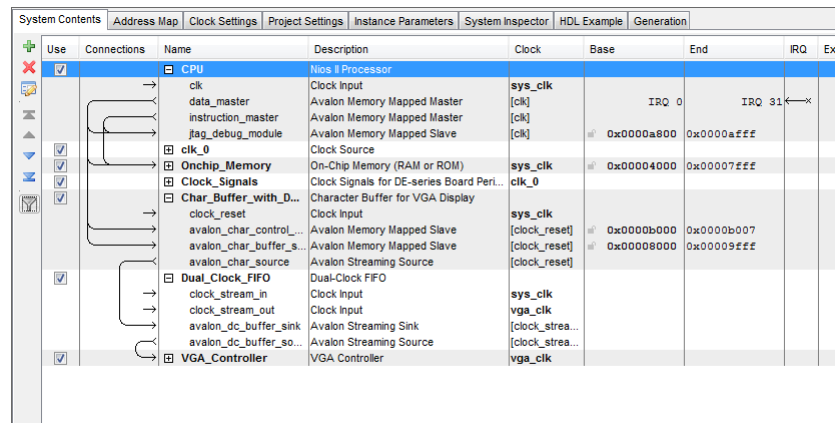

Figure 1. Character display example's Qsys system
In this example, drawing characters on the screen is implemented using the system shown in Figure 1. To display a character on the screen, users must specify the character location to the Character Buffer IP core. Once specified, the character buffer renders an image of each character and sends it to the Dual-Clock (DC) FIFO core. The DC FIFO buffers part of an image to be displayed on the screen until the VGA IP core is ready to display it. When the VGA cores is ready, the image will be displayed on the screen. It is important to note that in this example the VGA IP core and the character buffer operate at different clock frequencies. This is because the VGA IP Core needs to run at 25 MHz to properly display an image on the screen, while the Character Buffer was connected to the system clock, which runs at 50 MHz. To allow both components to work together, the Clock Signals core generates the appropriate clocks, and the DC FIFO facilitates reliable communication between the two IP cores.